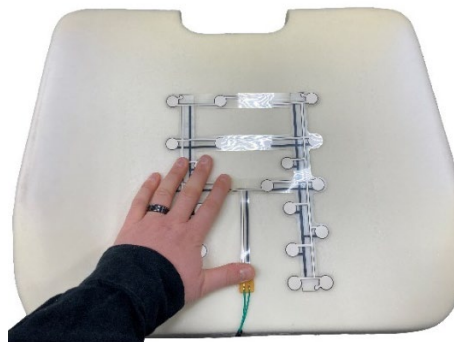

Figure 17
3. Center sensor side-to-side on seat cushion. See Figure 17. Place sensor on seat cushion following sensor placement guide in Figures 18-31.